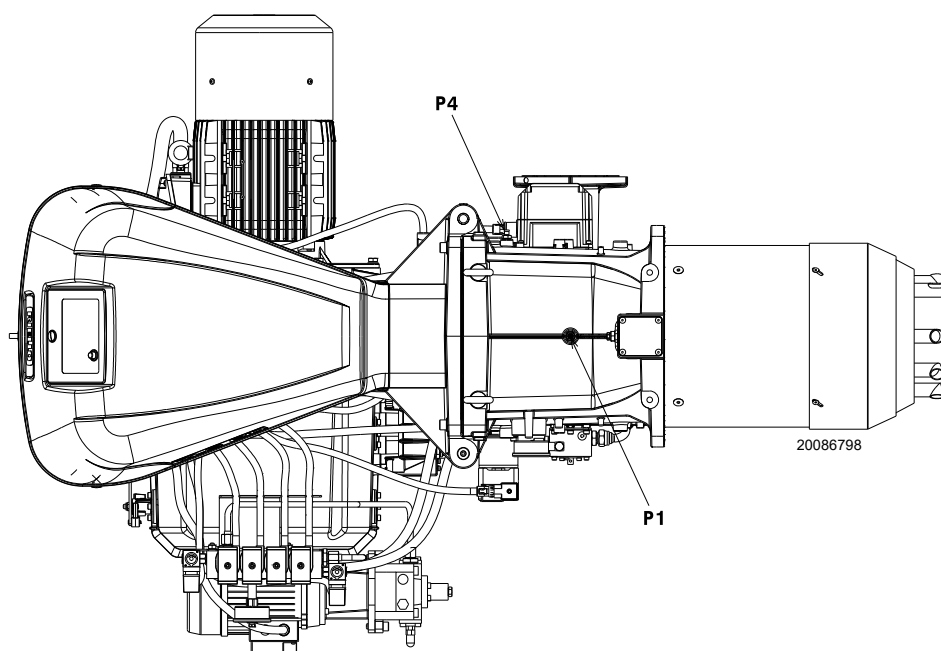

Fig. 30
Gas pressure measured at the test point P1)(Fig. 30), with:
- subtract the combustion chamber pressure from the gas pressure measured at test point P1) (Fig. 30 on page 30).
Gas pressure at test point P1) (Fig. 30 on page 30) = 24.3 mbar
To calculate the required gas pressure at test point P1) (Fig. 30 on page 30), set the MAX output required from the burner operation:
- Read, on the right (column 1), the pressure at the test point P1) (Fig. 30 on page 30).
Pressure required at test point P1)(Fig. 30).